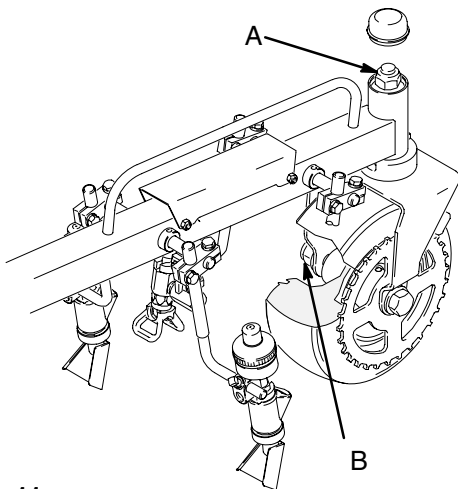

Fig. 11
Fig. 11. After every 3 months of operation, torque boom arm swivel hub (A) until tight; then loosen 1/8 turn. After every 3 months of operation, torque boom arm wheel hub (B) until tight; then loosen 1/4 turn.